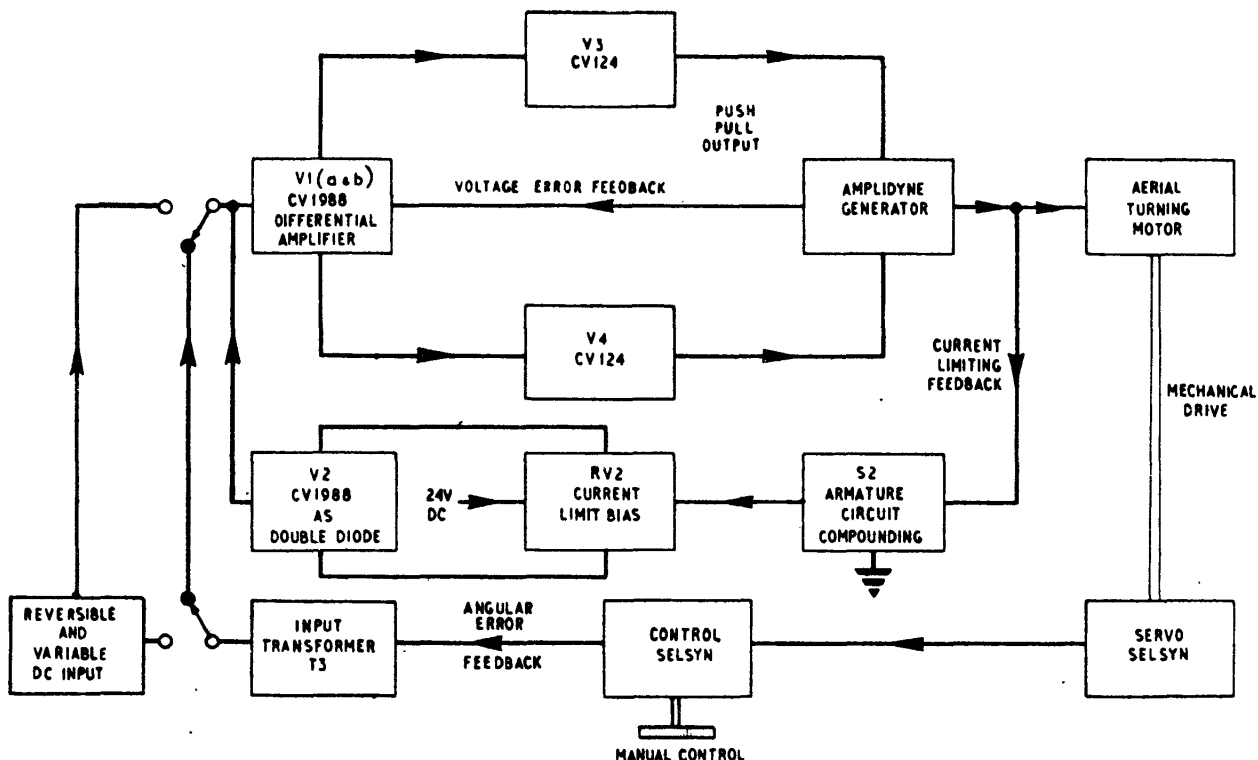

Fig.4. Servo amplifier block diagram
11. The amplifier also has a CURRENT LIMIT feedback circuit to prevent excessive current being driven through the amplidyne and turning motor circuit. When this circuit is operating the normal voltage feedback circuit from the amplidyne armature circuit to V1b is inoperative, so an additional stabilizing circuit (*not shown in fig. 4*) is provided from the amplidyne quadrature field to V1a.